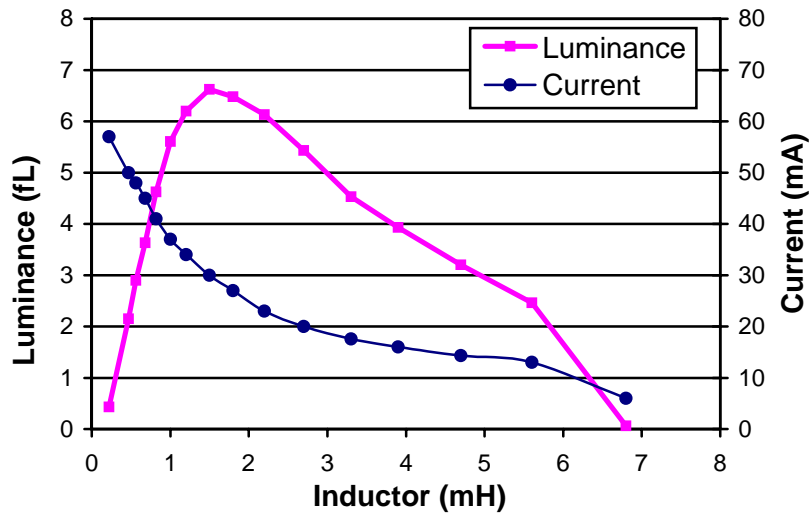

Figure 3: Luminance and current vs. inductor value.
The external inductor (L) selection for a D365A IC circuit greatly affects the output capability and current draw of the driver. A careful designer will balance current draw considerations with output performance in the choice of an ideal inductor for a particular application. Figures 3 and 4 show typical brightness and current draw of a D365A IC circuit with different inductor values, lamp sizes, and supply voltages. Please note that the DC resistance (DCR) of inductors with the same nominal inductance value may vary with manufacturer and inductor type. Therefore, inductors made by a different manufacturer may yield different outputs, but the trend of the different curves should be similar. Lamp luminance is also a function of lamp size. In each example, a larger lamp will have less luminance with approximately the same current draw.